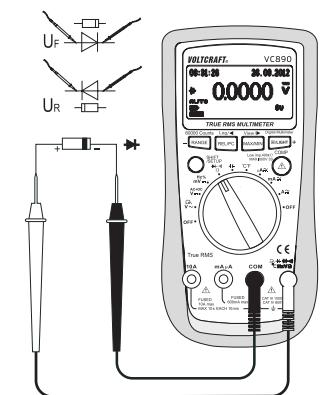

Fig. 6
- Turn on the DMM and select the measuring range “ Ω ”. Press the SHIFT/SETUP button (3) until the diode test symbol $\rightarrow\!\!\!$ appears in the display.
- Insert the red test lead in the $^{\circ}\text{CHzV}\Omega$ measuring socket (7), the black test lead in the COM measuring socket (8) (Fig. 6).
- The display shows the continuity voltage “UF” in Volts (V). If “OL” is indicated, the diode is measured in reverse direction (UR) or the diode is faulty (interruption). Perform a measurement with the poles reversed as a control.